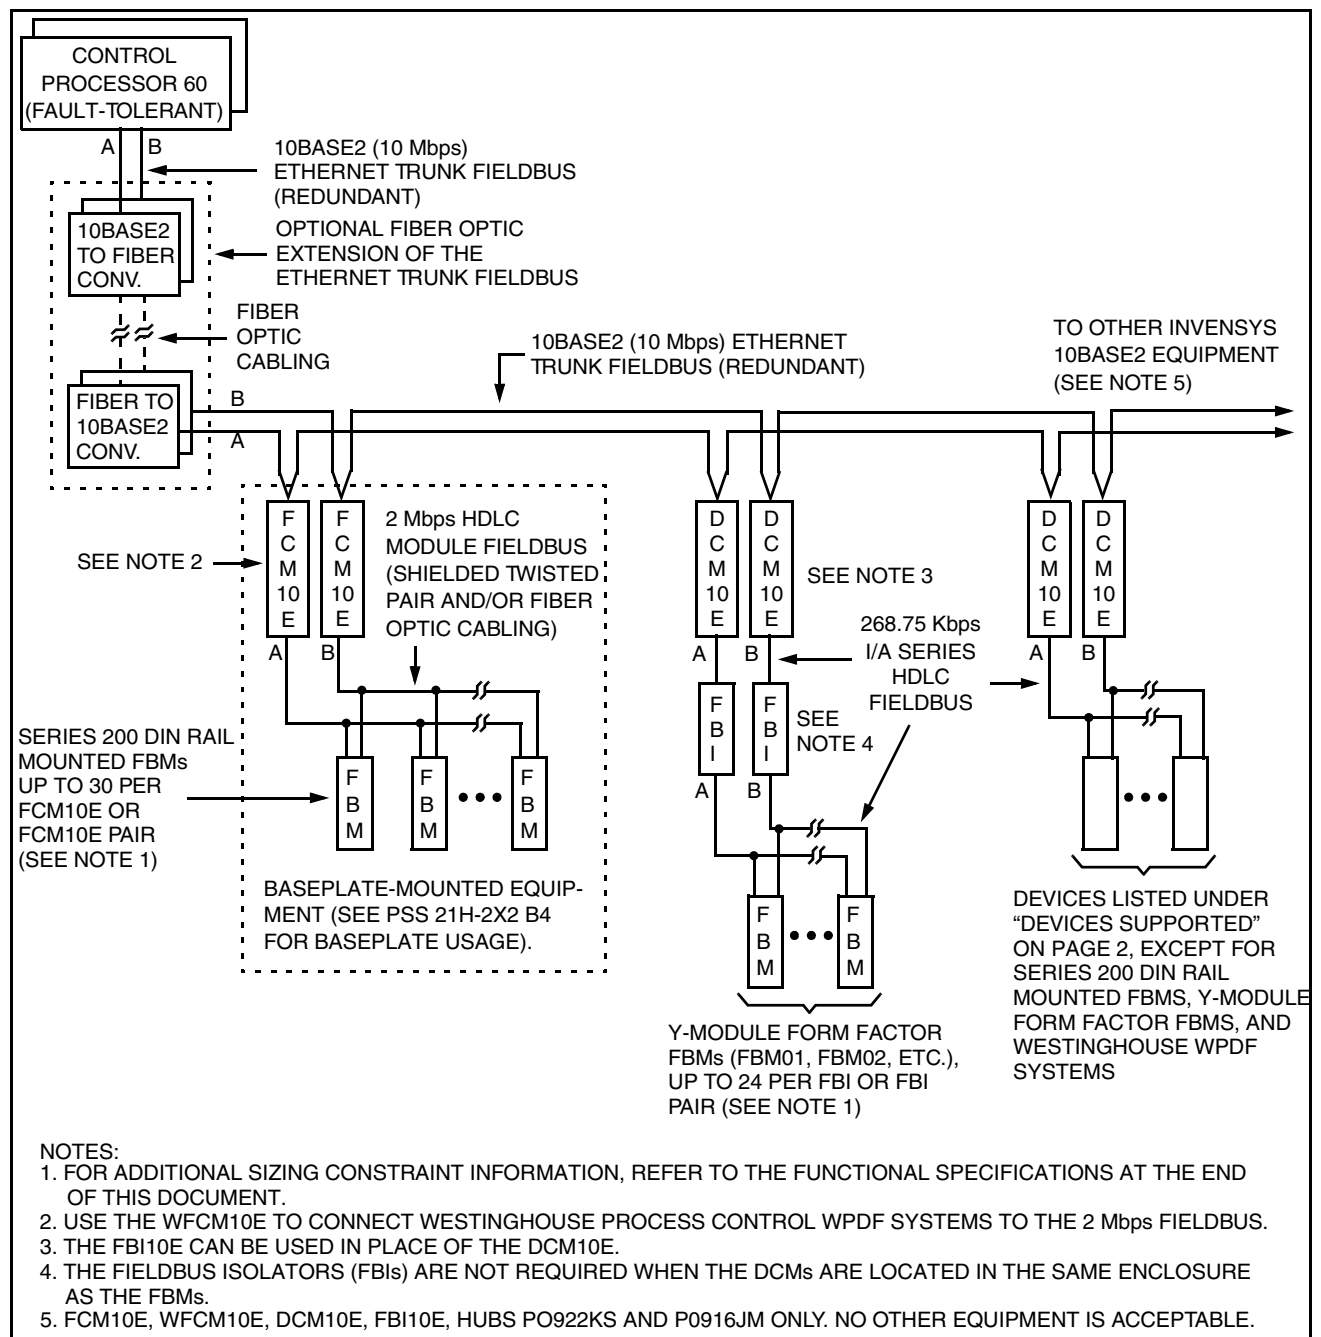
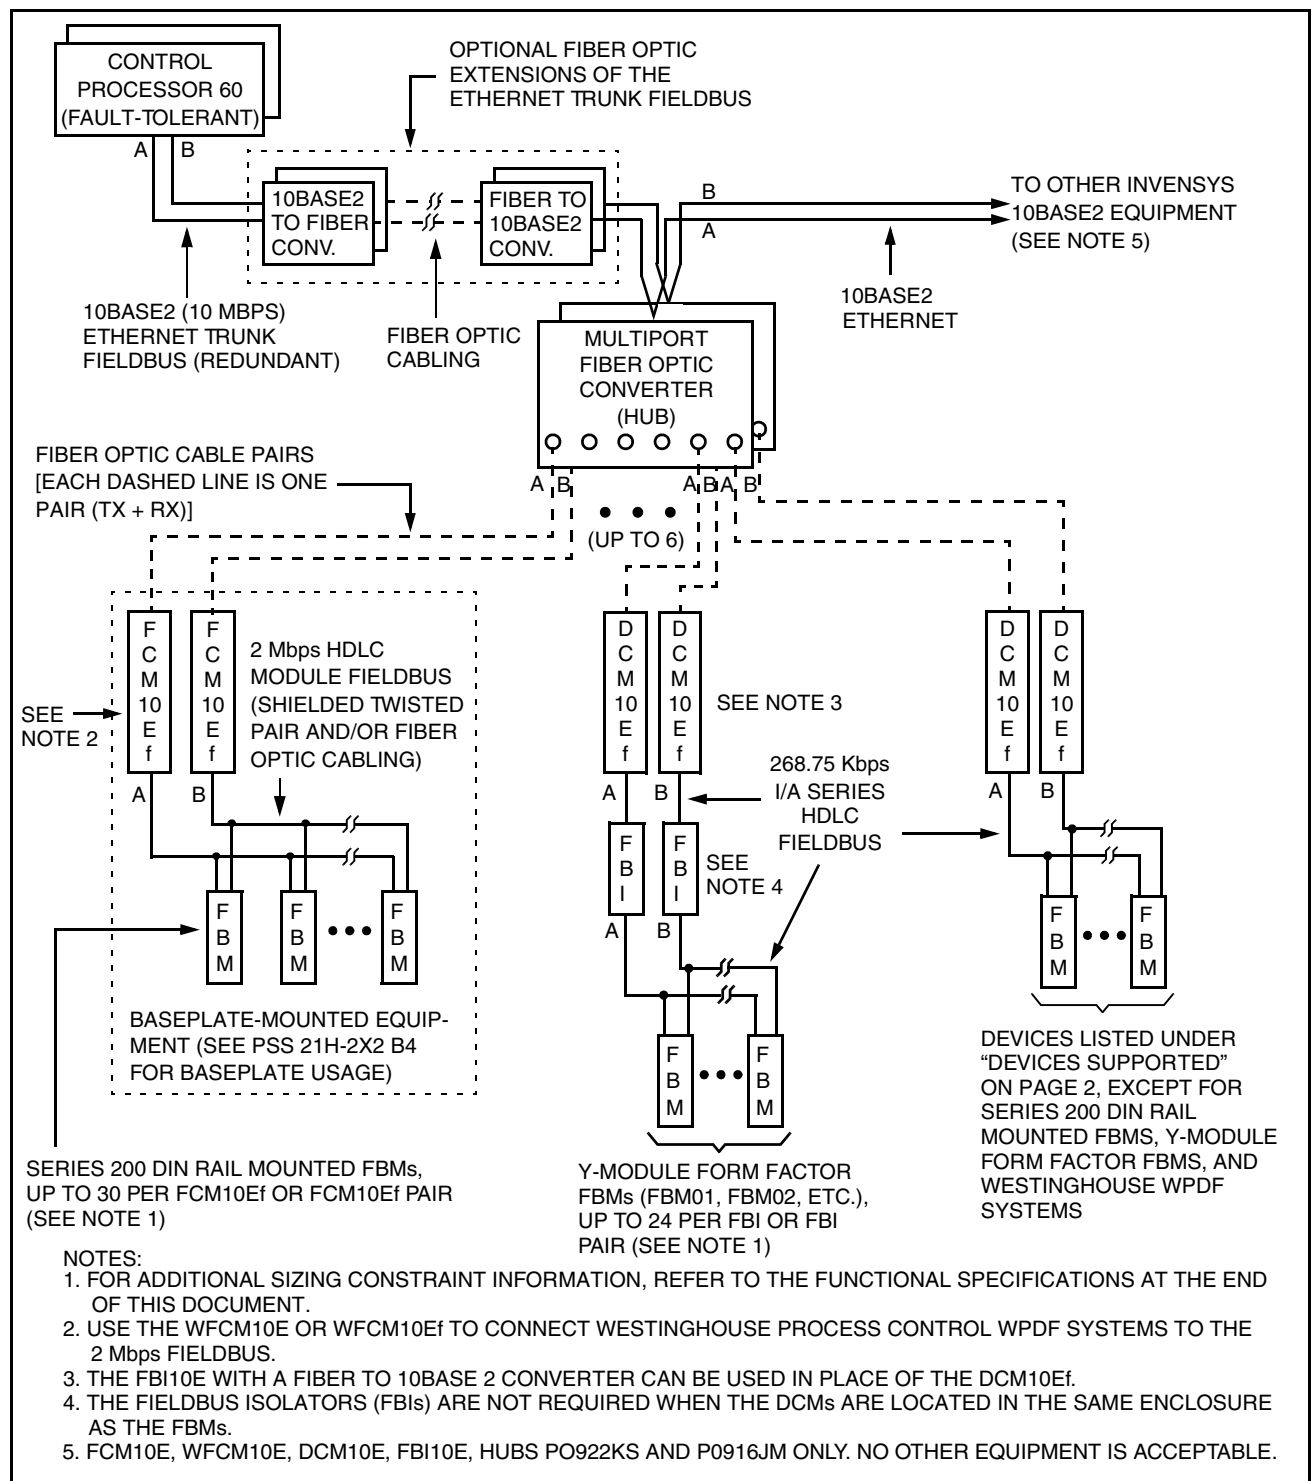

Figure 1. Typical Direct Network Configuration
Figure 2. Typical Active Star Network Configuration
- Direct Network Configuration (Figure 1) – In this configuration, a direct connection is made between the control processor and the FCM(s) and/or DCM10E or FBI10E modules, with the possible option of a fiber optic extension.
- Active Star Network Configuration (Figure 2) – In this configuration, a multiport fiber optic converter (hub) further extends the overall Fieldbus distance, while adding application versatility and security.
(a) The Ethernet trunk Fieldbus connects between the Control Processor 60 and the FCMs and/or DCM10E or FBI10E modules in the Direct Network Configuration (Figure 1), and between the Control Processor 60 and the hub(s) in the Active Star configuration (Figure 2).